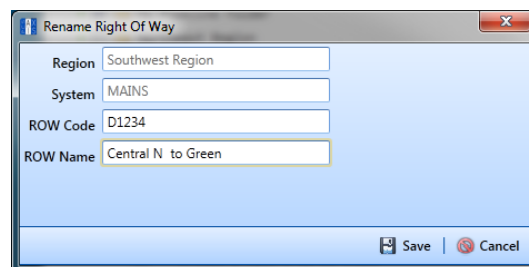

Figure 3-6. Rename Pipeline
- a Click **Rename** to open the *Rename* dialog box (Figure 3-6). Right-clicking the selected pipeline and selecting *Rename* in the shortcut menu also opens the dialog box.